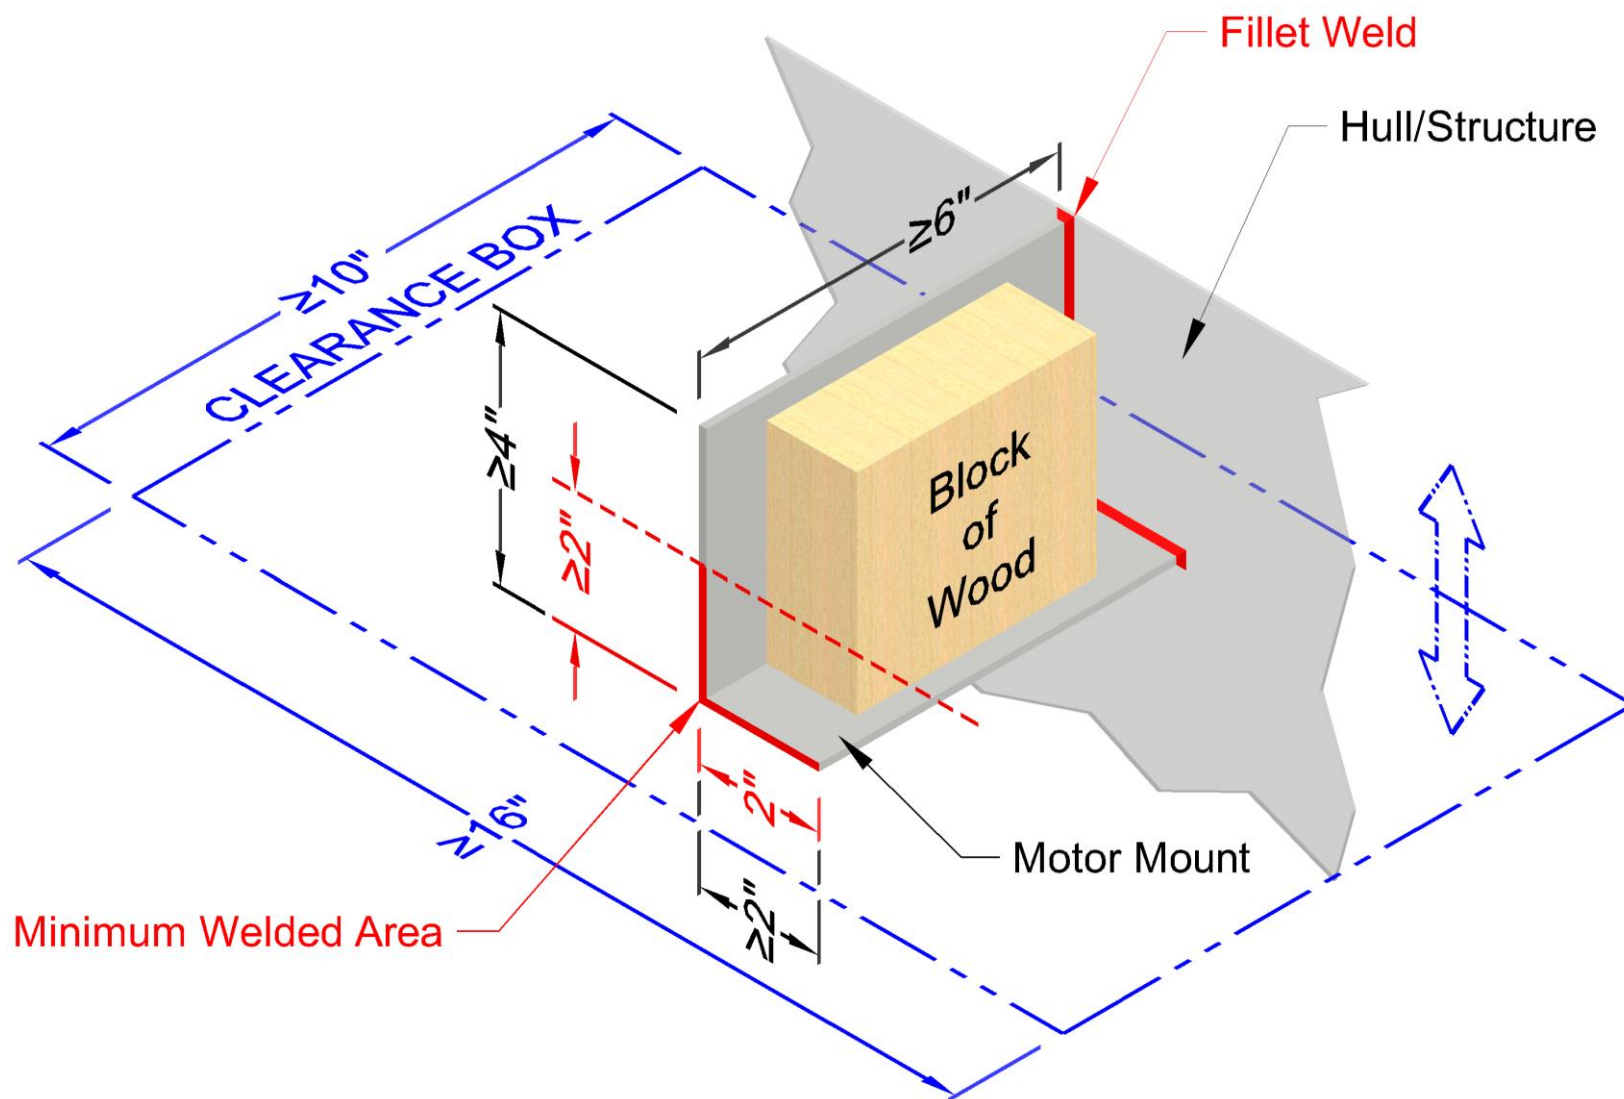

Figure 3 – Motor Mount Template
- Dimensions: In accordance with Figure 3
- Shall be able to be quickly attached/detached via the screw clamps without interference or require disassembly of other components or require disassembly of the motor itself (i.e. the motor is one piece). Clearance for *all* hull types shall be provided according to Figure 3. The clearance box is the imaginary three-dimensional envelope that allows the motor to be installed in one piece.